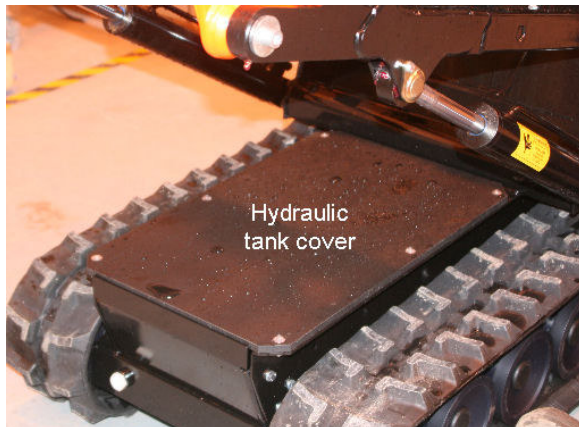

Fig 3-16 Hydraulic tank cover
1. Remove the hydraulic tank cover (Fig 3-16) (six screws).